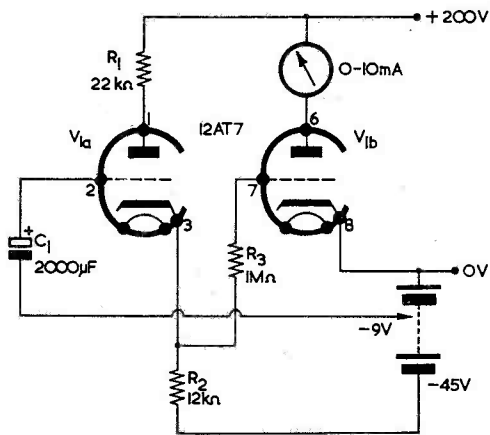
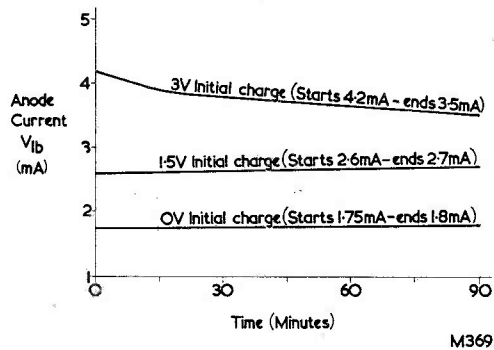

Fig. 2. An experimental "memory" circuit
Fig. 3. Results obtained with the circuit of Fig. 2
The capacitor was connected up in the C_1 position of Fig. 2, its positive plate coupling to the grid of the cathode follower $V_{1(a)}$. The voltage on the cathode of $V_{1(a)}$ is applied to the grid of $V_{1(b)}$ via R_3 , the latter being included to limit grid current should $V_{1(a)}$ cathode go positive of chassis. A 12AT7 was employed in the circuit since this valve has a relatively short grid base and should in consequence give large variations in anode current for small changes in grid voltage. An h.t. voltage of 200 was employed, thereby simulating conditions in a television receiver, and an additional
The results obtained with the circuit of Fig. 2 are illustrated in Fig. 3, which shows the anode current in $V_{1(b)}$ over an hour and a half for differing charges in C_1 . The curves
The circuit of Fig. 2 would appear to offer a practical arrangement wherein television receiver functions may be controlled by the near-constant potential appearing across C_1 . As will be readily understood, this point can only be claimed with the particular electrolytic capacitor used by the writer. Other high-value capacitors may have even lower leakage currents than those found here and may allow the capacitor to function reliably over a wider range of voltages. Alternatively, capacitors may be encountered whose leakage currents are higher, and which would be quite useless for the present purpose. It can be suggested, nevertheless, that at least some capacitors having values of the order of $2,000\mu\text{F}$ or more should give results as good as those experienced by the writer.
- (b). A suggested modification which allows brightness to be controlled by the charge on C_1 of Fig. 2
The manner in which a circuit similar to that of Fig. 2 may be connected into the control circuits of a television receiver depends to a considerable extent upon the form the latter take. Nevertheless, some suggestions are now given which may be acted upon by the more experienced constructor. An anode current ratio of 1 : 1.5 in $V_{1(b)}$ will be assumed (i.e. 1.8 to 2.7mA, as in Fig. 3), although a much greater current ratio for the same change in grid voltage could be given by using sharp cut-off valves such as the 6BH6 in the $V_{1(b)}$ position.
The circuit of Fig. 2 has the disadvantage that a 45 volt battery is used, and this is obviously undesirable in a practical arrangement. There is a second disadvantage also, this being given by the fact that if the 200 volt supply is switched off before the 45 volt supply the cathode of $V_{1(a)}$ goes negative of chassis and causes C_1 to be discharged via the cathode-grid diode of this valve. The same can happen if, after the